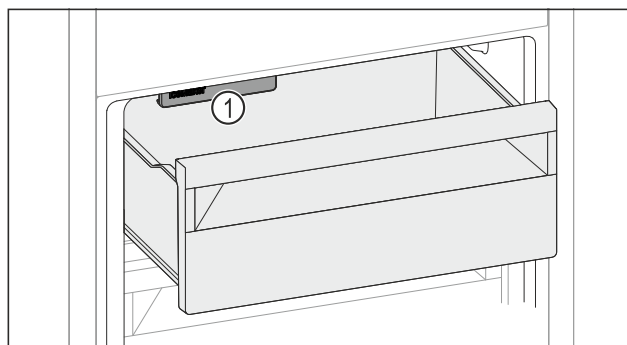

Fig. 168
- ▶ Observera IceMaker Fig. 168 (1).